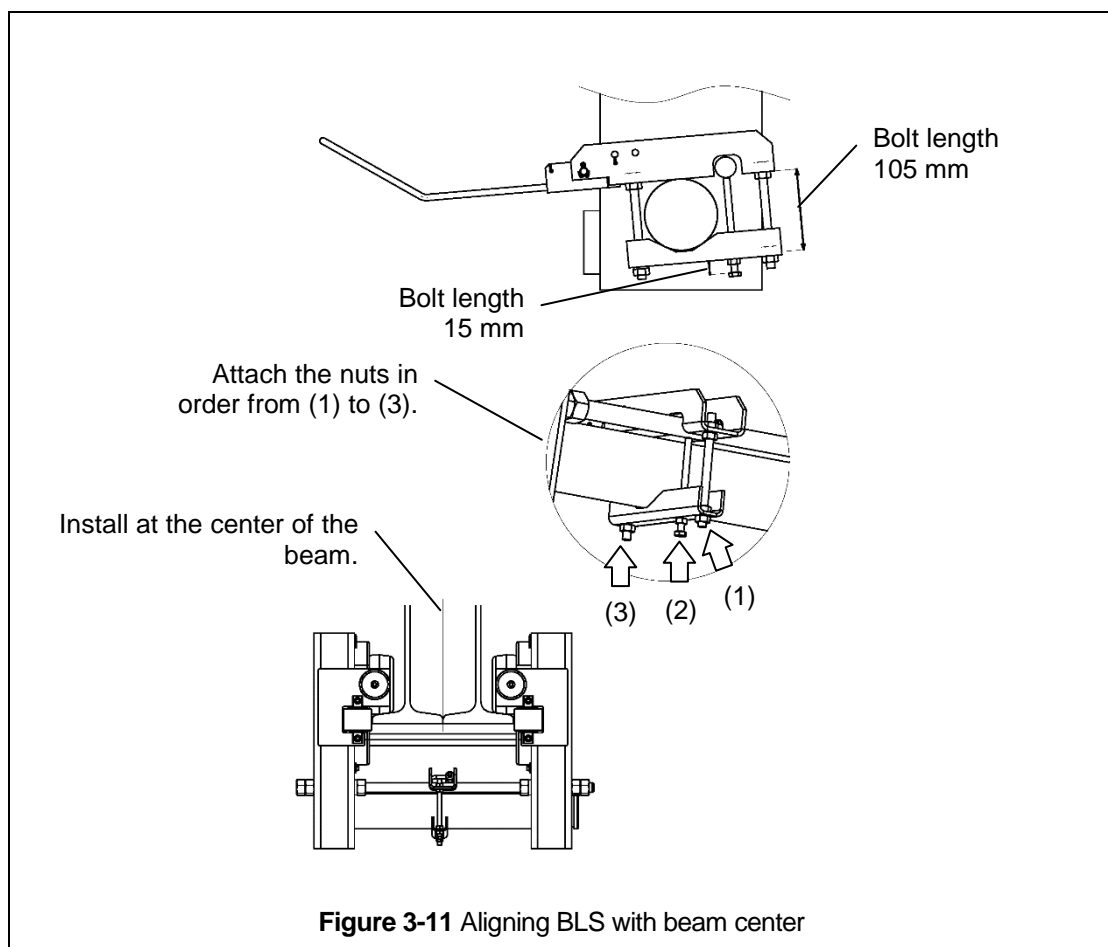

Figure 3-11 Aligning BLS with beam center
- 3) Tighten the two nuts and affix the height of the BLS so that the length of bolt (1) is 105 mm.
- 4) At a location where the length of bolt (2) extends 15 mm, tighten the nut and affix the length of the bolt. (Refer to **Figure 3-11.**)
- 5) Lastly, firmly tighten nut (3) and affix the position of the BLS.